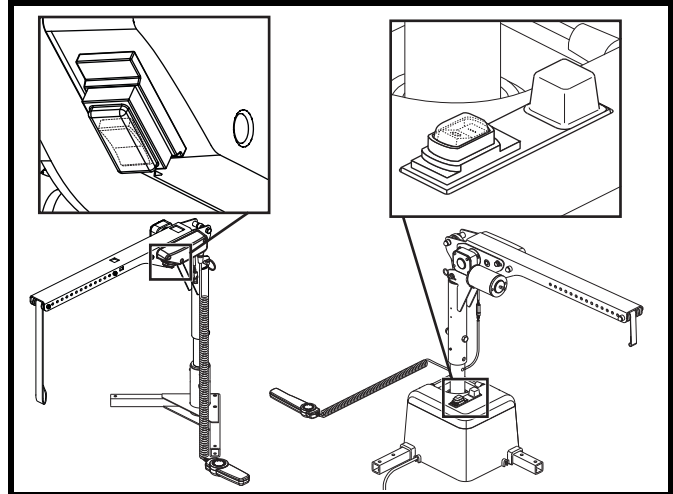

Figure 7. Circuit Breaker Reset Button
Your Pride Boom 250 is equipped with a power switch that enables/disables operation. Press UP to turn the power on; press DOWN to turn the power off. See figure 7.
**NOTE:** The ON/OFF switch also functions as the circuit breaker reset button. See figure 7.
- Check the circuit breaker reset button. Reset if necessary. See figure 7.
If your Pride Boom 250 is heavily strained because of excessive loads, the main circuit breaker (see figure 7) may trip to protect the motor and electronics from damage. When the breaker trips, the entire electrical system shuts down.
2. Push in the reset button to reset the breaker. See figure 7.